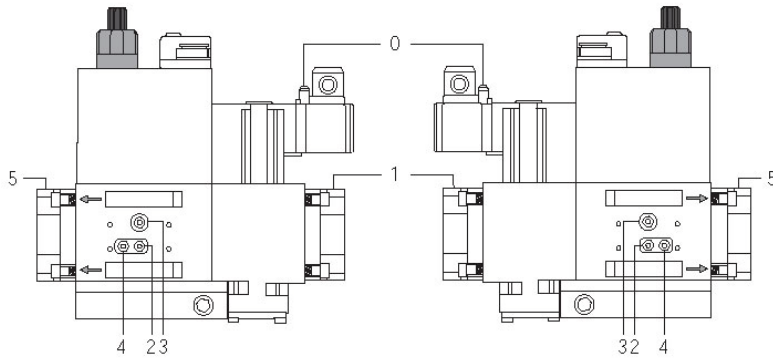
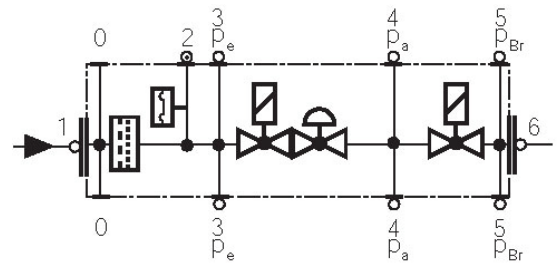

Fig. 43
Fig. 44
- Change the filter if the pressure difference between pressure connection 1 and 2 (Fig. 43-Fig. 44) $\Delta p > 10$ mbar.
- Change the filter if the pressure difference between pressure connection 1 and 2 (Fig. 43-Fig. 44) is twice as high compared to the last check.